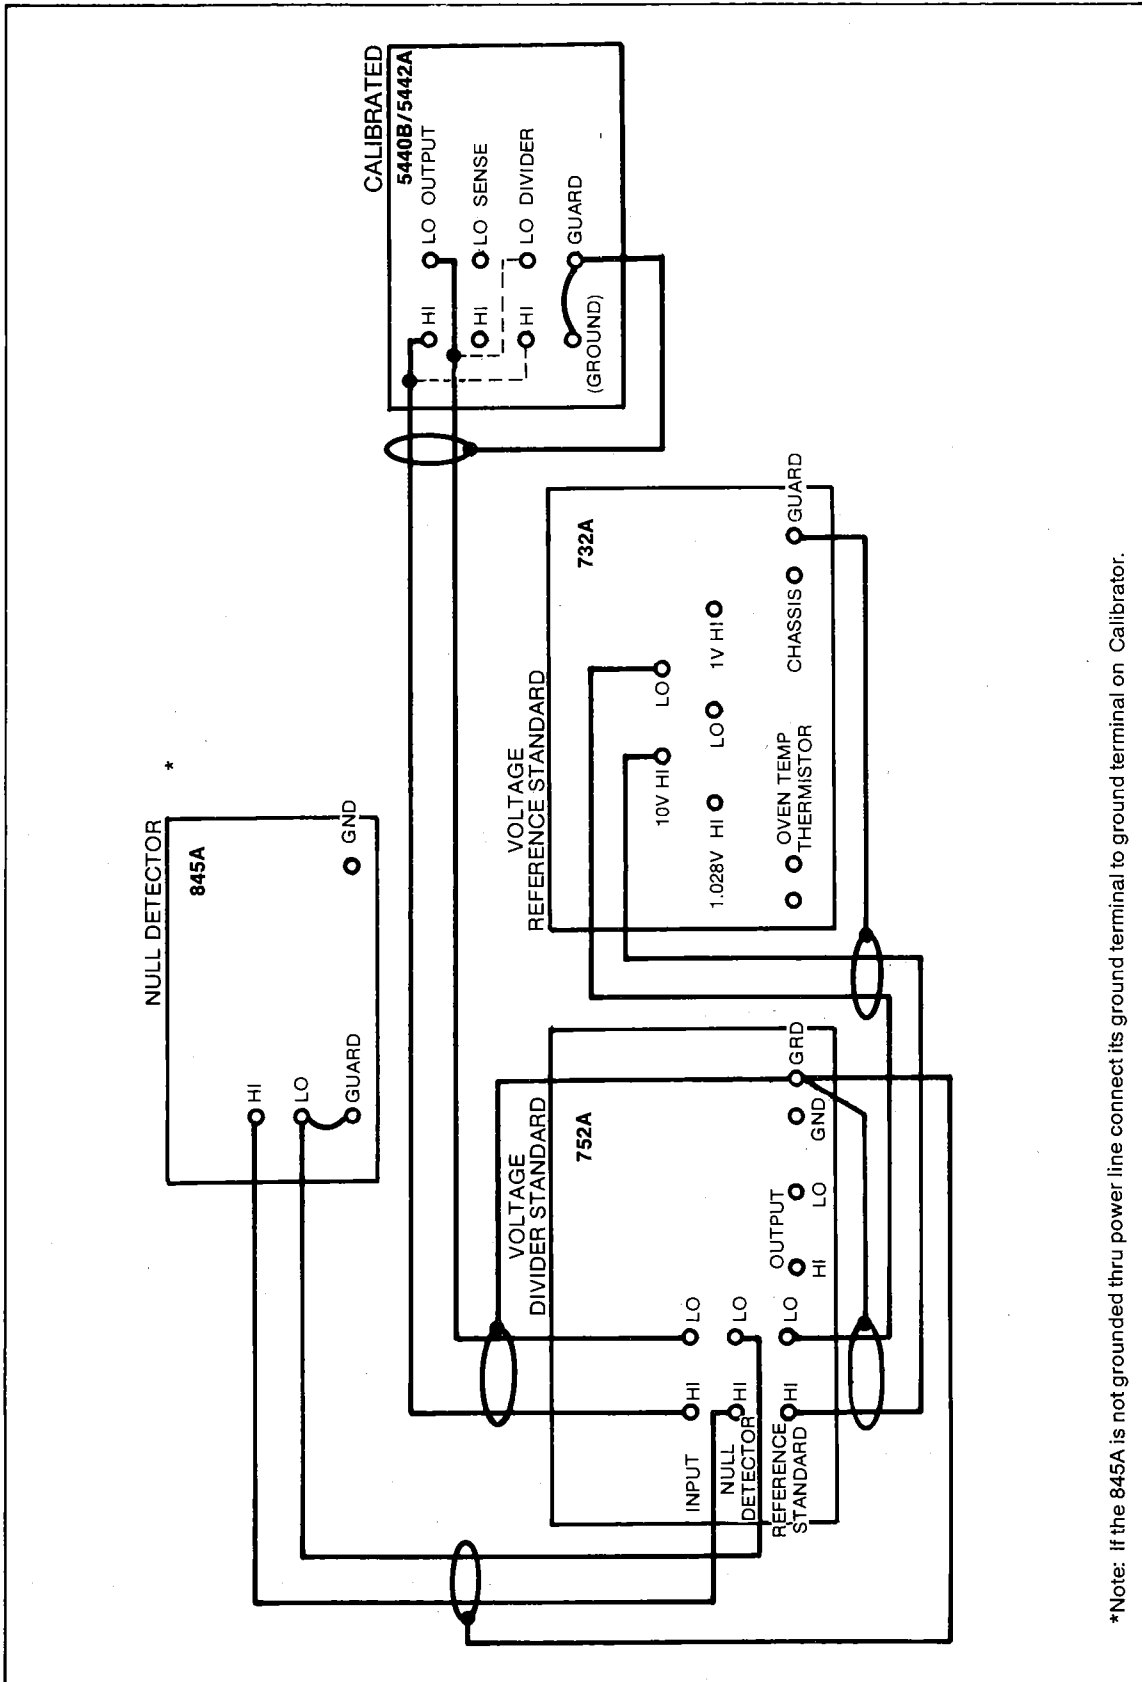

Figure 3-8. External Calibration
2. Connect the test equipment as shown in Figure 3-8.